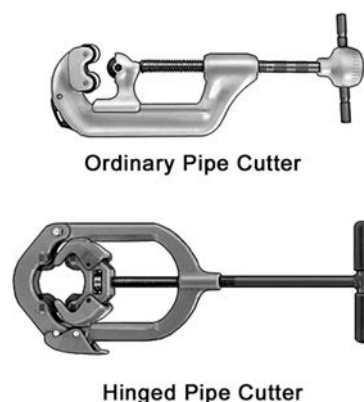
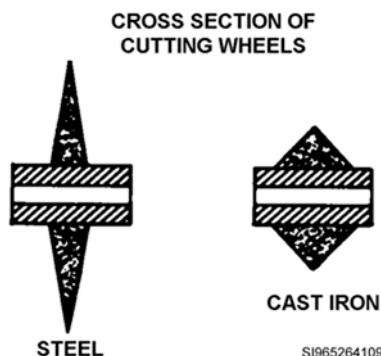

Figure 1-38. Pipe cutters.
Figure 1-39. Cutting wheels for pipe cutters.
You can use an ordinary or hinged pipe cutter on cast-iron pipe Figure 1-38. Normally the ordinary type of cutter has one cutting wheel and two rollers, but some cutter models can be converted to a three-wheel cutter for working in close places. The hinged cutter normally comes with 3 or 4 cutting wheels. However, the cutter must be equipped with a special cutting wheel for cast iron. Figure 1-39 shows a cross section view of (1) wheel used for steel pipe and (2) one used on cast iron.